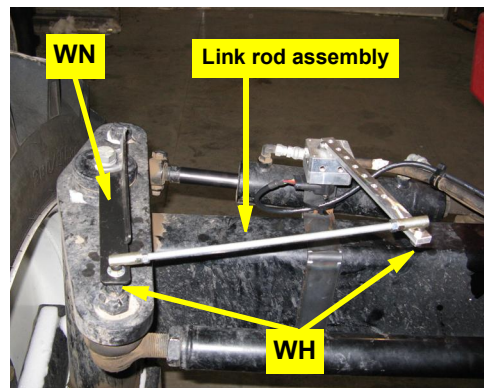

Figure 2d: Installed WAS link rod bracket. (You will connect the WAS cable at step 2d in the ECU installation section.)
d. Using hardware **WH** install the assembled WAS link rod from step 1 between the last hole in WAS arm **WC** and bracket **WN**. Set the swivel studs downward at both ends (Figure 2d). Leave swivel nuts **WH** loose.